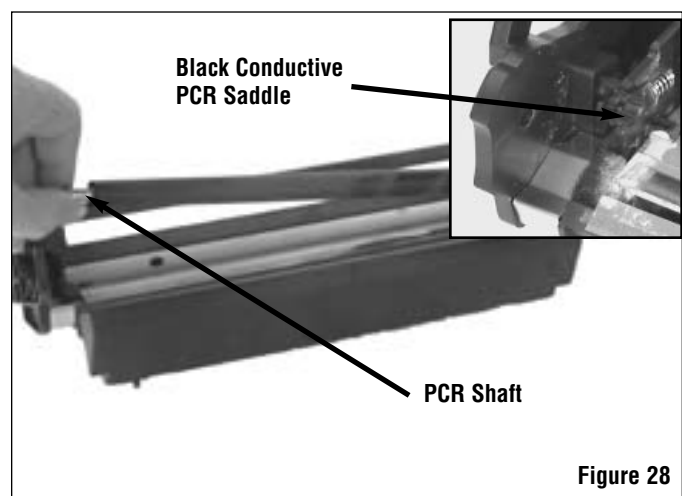

Figure 28
- c. Holding the PCR by the shaft, place it on top of the PCR Saddles inside the cartridge body as shown in figure 28.